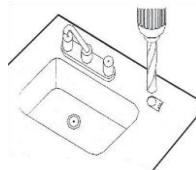

FIGURE A-4
2. If you drill marble, granite ceramic, laminate or sheet metal sink, first you should use 5 mm drilling bit and then 12 mm drilling bit, respectively. The drill must be operated at low speed and without impact. If the counter is covered with tile-coated cast concrete, it must be drilled with a diamond bit. (Figure A-4)